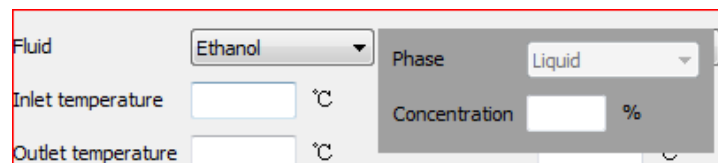

Figure 8 –Phase and Concentration input box
- ✧ **Phase and Concentration:** will pop up for special brine (as shown in Figure 8)